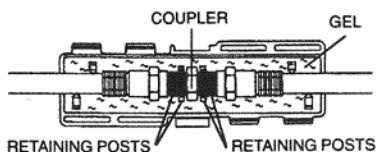

FIGURE 1 - PLACE COUPLER
2.02 Place center of coupler between coupler retaining posts. (Figure 1)